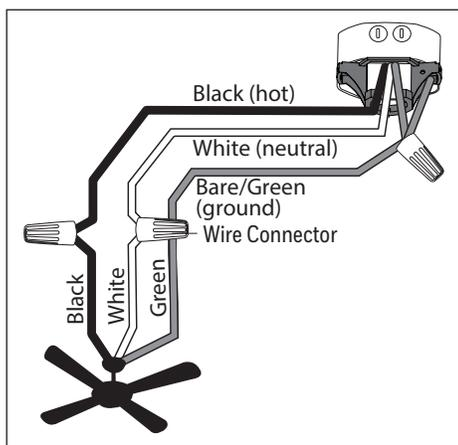

Figure 5.1
- Use wire connectors to connect household supply and fan wires according to the diagram (Figure 5.1) and the following steps: